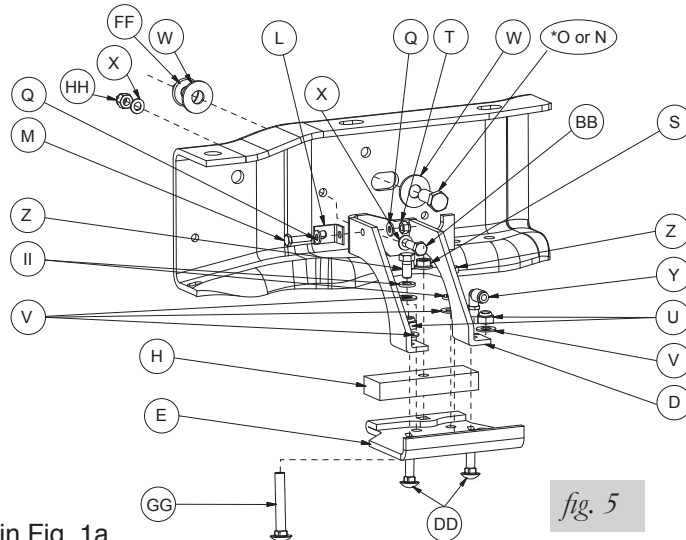

fig. 5
- Attach the L-bracket (L) to the back frame brace using the 1/4" bolt (M), flat washers (Q) and nyloc nut (T) supplied (Fig. 5). This L-bracket will eventually be used to attach the previously removed emissions line. Do not attach the line holder to it at this time.
1. Set the left upper brace (D) into the driver side frame rail. The brace has a small hole that will line up with an existing hole in the frame, insert the 8mm hex cap screw (BB) with a flat washer (X) through the brace and frame (Fig. 5) and cap with flat washer (X) and M8 Nyloc nut (HH). Leave loose at this time.
- If you have no fifth wheel hitch or if you have the **standard equipment Reese fifth wheel hitch** that was purchased on the truck from Ford, in the frame there is a slot that is forward of the M8 bolt just installed, insert the 1/2"-13 x 1.25" hex cap screw (O) and flat washer (W) through the brace and frame (from the inside out). Cap with a flat washer (W) and a 1/2" serrated flanged lock nut (FF) (Fig. 5 and 6). Do not tighten at this time.
If you have an aftermarket fifth wheel hitch that has a bracket (plate) running along side of the frame and it used this slot to secure the bracket to the frame with existing hardware, install the existing hardware previously removed in the "getting started section" from the fifth wheel installation for securing the brace (Fig. 5). Do not tighten at this time.
Insert a 1/2"-13 x 3.00" hex cap screw (N) with a flat washer (W) through the brace, frame and fifth wheel plate previously drilled. Cap with a flat washer (W) and a 1/2"-13 serrated flange lock nut (FF) (Fig. 5). Leave loose at this time.